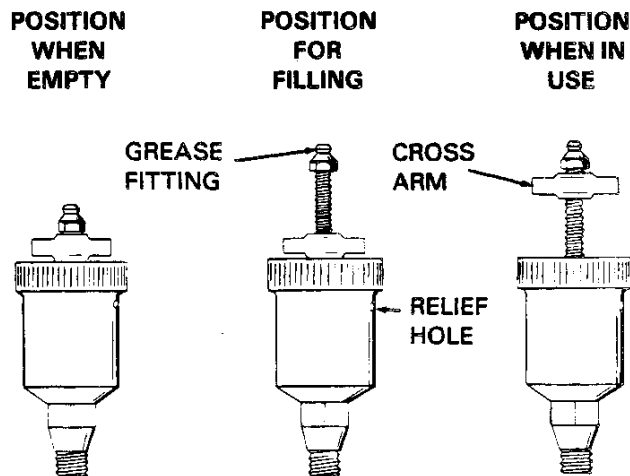

Figure 3. Automatic Lubricating Grease Cup
Fill the grease cup (9) through the grease fitting with No. 2 lithium base grease until grease escapes from the relief hole. Turn the grease cup arm counterclockwise until it is at the top of the stem; this will release the spring to apply grease to the seal (see Figure 3).